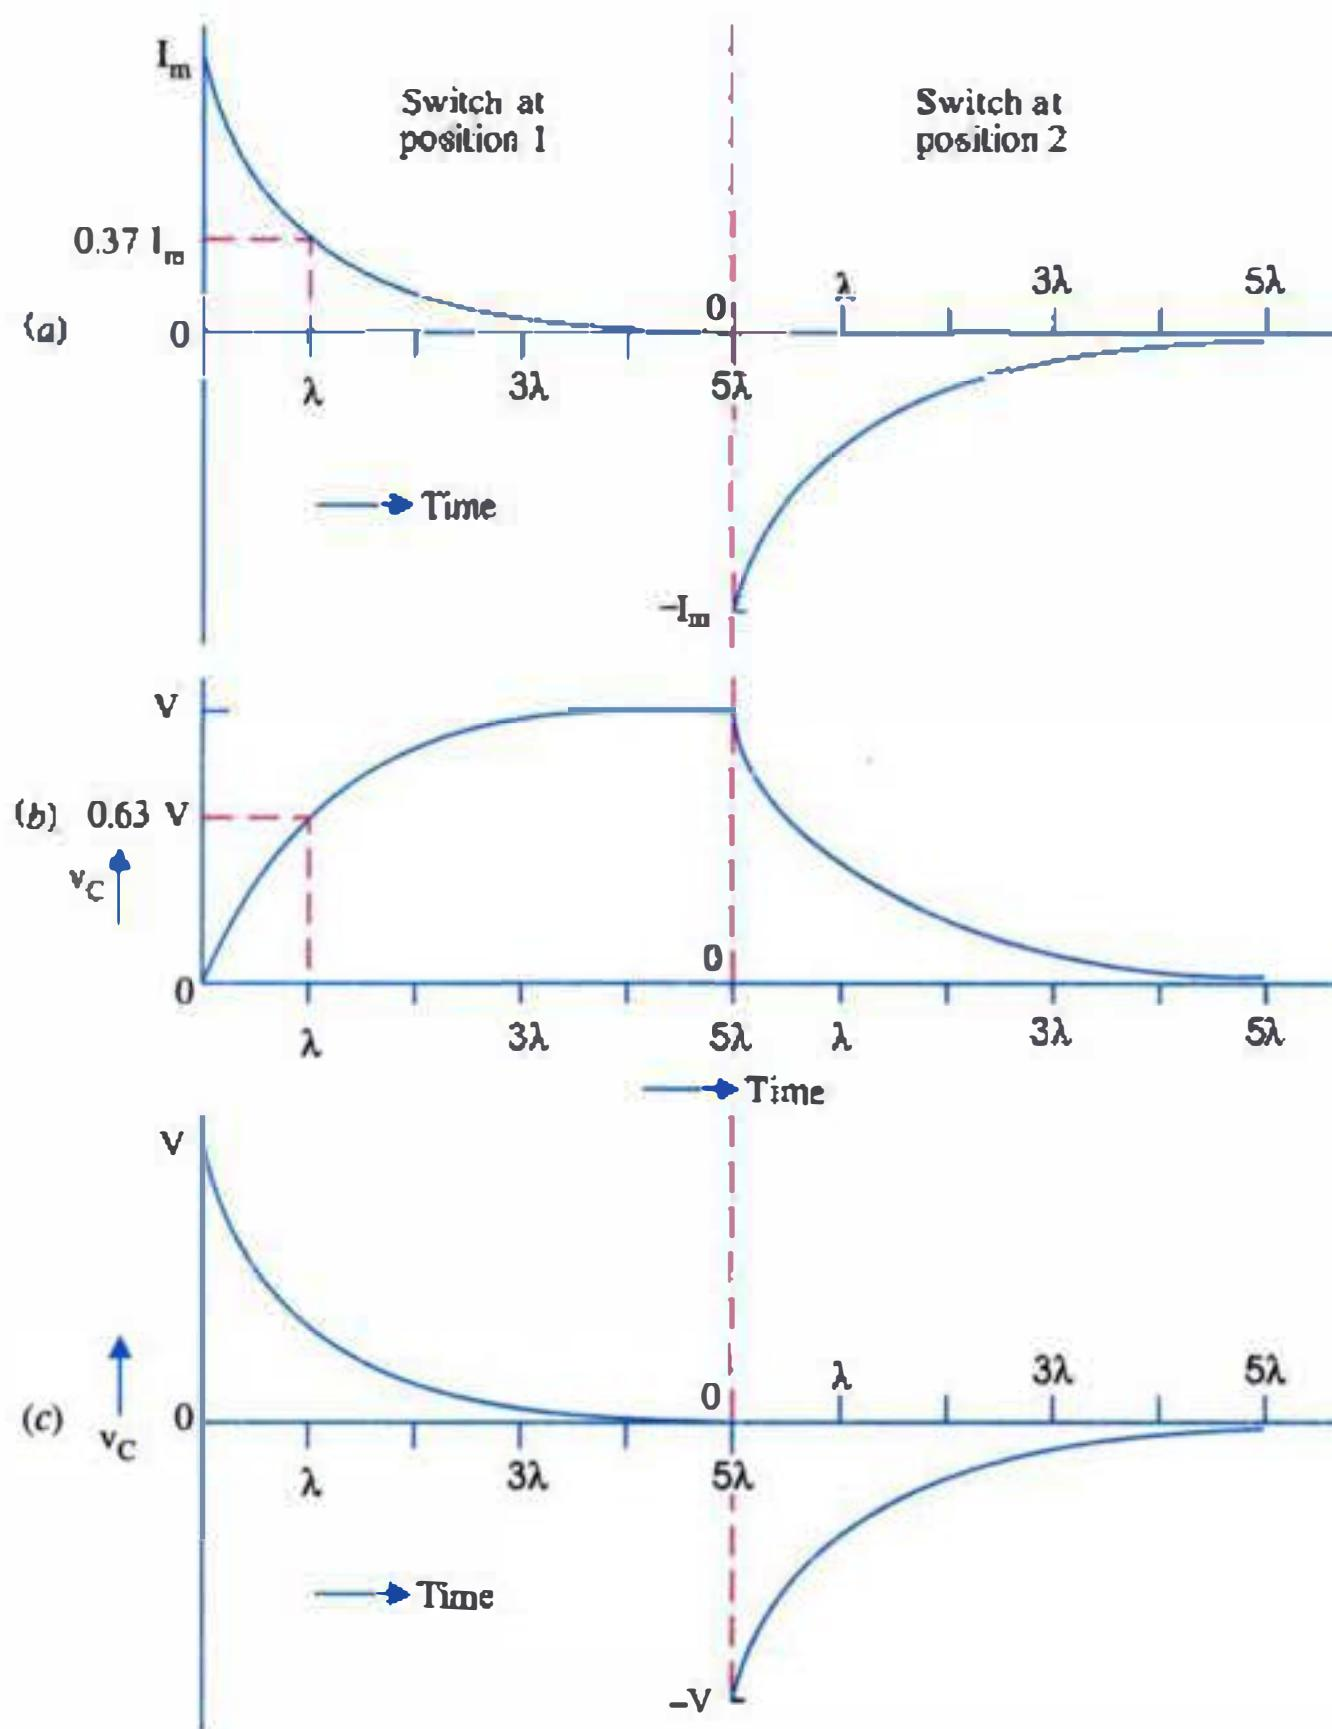

Fig. 10.7
1. It is the time during which the charging current falls to 37% of initial maximum value [Fig. 10.7 (a)].
2. It is the time during which capacitor voltage rises to 63% of its final steady value [Fig. 10.7 (b)].
1. At the instant of switching on  $V_C = 0$  but charging current is maximum given by  $I_m = V/R$  as shown in Fig. 10.7 though its rate of decrease is also maximum.
3. As charge starts collecting on  $C$ ,  $v_C$  starts decreasing at a progressively diminishing rate as shown in Fig. 10.7.